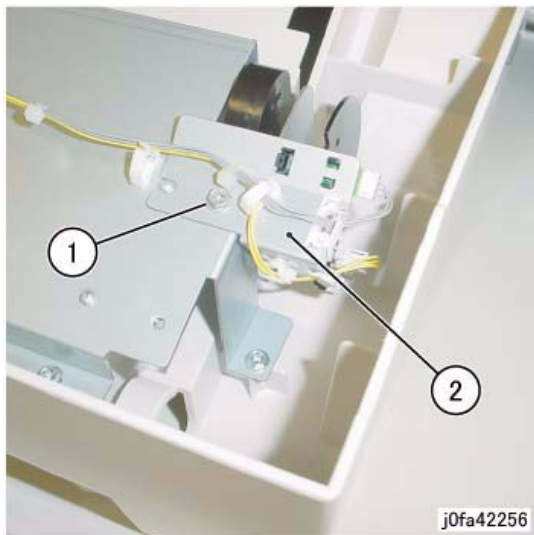

Figure 5 Removing the Stacker Stack Sensor Assembly (j0fa42256)
9. Remove the Stacker Stack Sensor Assembly. (Figure 5)